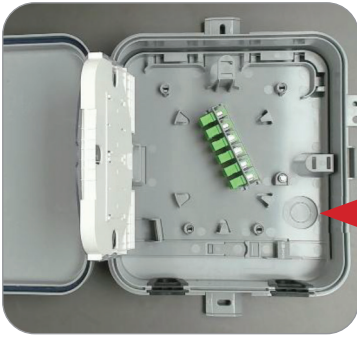

Figure 17
3. Route the distribution cable with one turn around the closure ensuring to install the cable through the left port. **(Figure 17)**